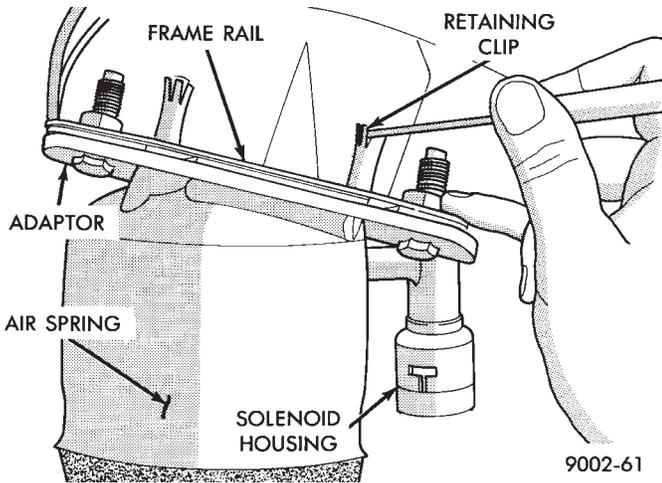

Fig. 18 Release Retaining Clips
(1) Disconnect battery negative cable, hoist vehicle and remove wheel and tire assembly.
(2) See AIR LINES AND FITTINGS and disconnect air line and electrical connector from solenoid.
(3) See SOLENOIDS (STRUT AND AIR SPRINGS) and vent air from spring. Remove solenoid.
(4) Release upper air spring alignment/retainer clips. (Fig. 18)